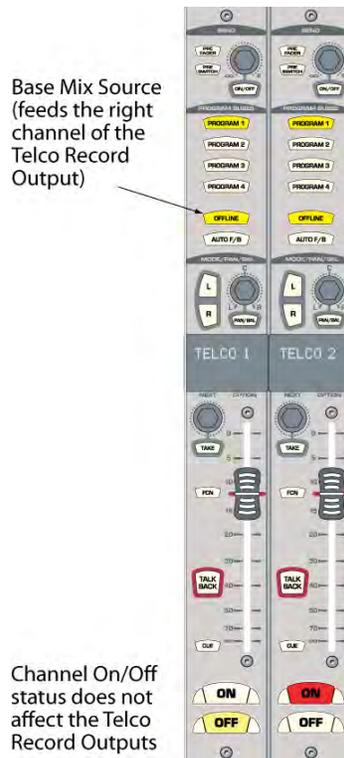

Figure 3-12. Recording Functions with Auto F/B Off for All To Record Telcos
- If **Offline** is the base mix source, it does not matter whether the channels are On or Off; all To Record Telco channels are recorded (Figure 3-12).